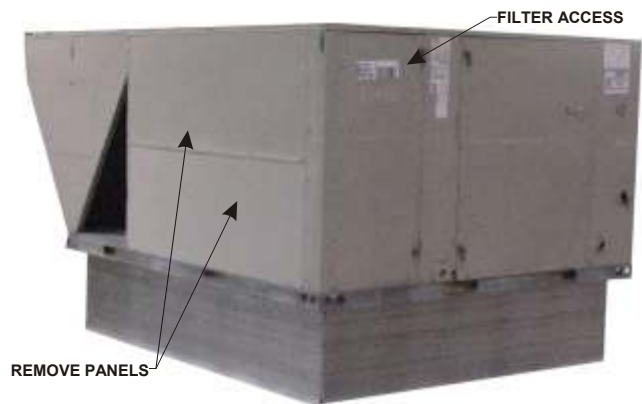

Figure 1
3. Remove the rooftop unit horizontal supply air and return air access panels. Also remove any hoods and/or power exhaust equipment. Discard hoods, power exhaust equipment, and horizontal supply and return air access panels. **See Figure 1.**